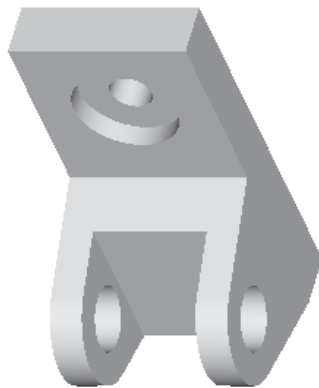

Figure 5-65 The default trimetric view
- d. Create a concentric hole as shown in Figure 5-65
9. Choose the **Build feature** button from the **HOLE** dialog box. The hole will be created as shown in Figure 5-65. The specifications of the counterbore hole are also displayed on the graphics screen.
In Figure 5-65, the hole specifications are not shown. You can remove the text by selecting it using the left mouse button. The text is highlighted in red. If you are not able to select the text, use the CTRL+middle mouse button to spin the model such that a part of text lies outside the model and now select the text. Now, right-click on the screen and choose **Erase** from the menu. The trimetric view of the model after the hole is created is shown in the figure.